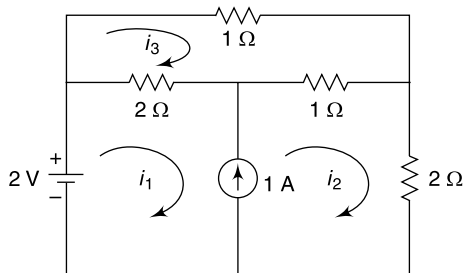

Fig. 4.185
24. In the circuit shown in Fig. 4.185 use loop analysis to determine the loop currents i_1 , i_2 and i_3 .